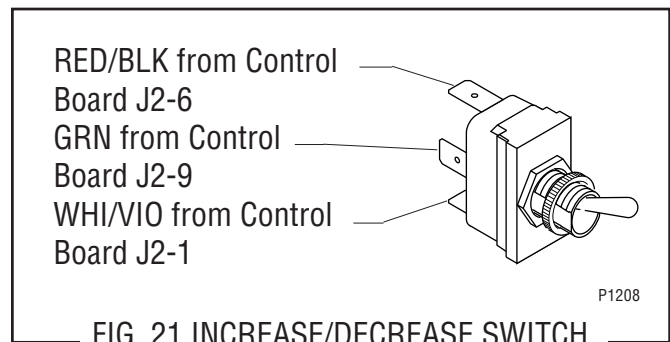

FIG. 21 INCREASE/DECREASE SWITCH
5. Refer to Fig. 21 when connecting the wires to the new switch.